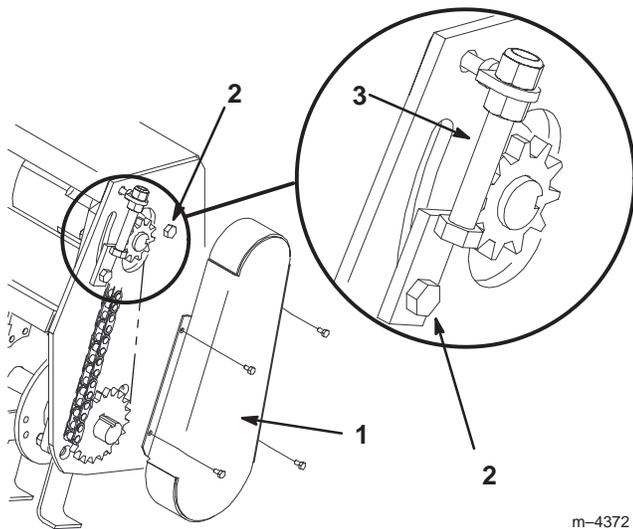

Figure 2
5. After proper chain tension is attained, tighten the adjuster bolt and hydraulic motor mount plate bolts (Fig. 2).